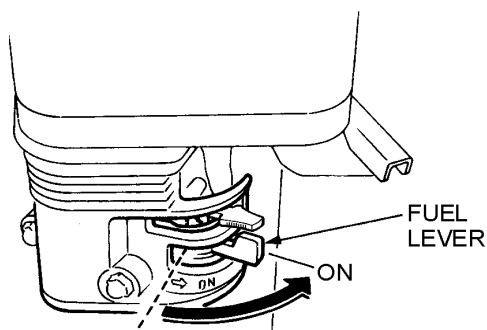

Figure 6. Engine Fuel Valve Lever (ON Position)
1. Place the engine **fuel valve lever** (Figure 6) to the "ON" position.